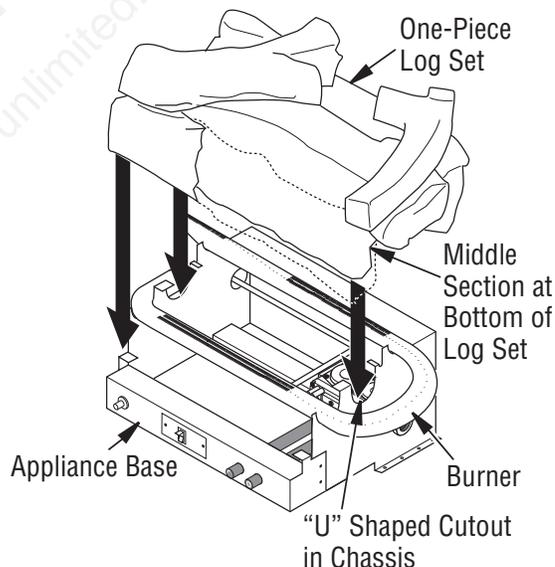
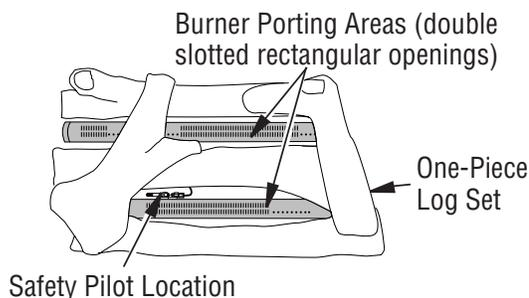

Figure 6 - Installing One-Piece Stove Log Set
Figure 7 - Top View of One-Piece Log Set on Gas Log Appliance
4. Set one-piece log on appliance base as shown in Figure 6. Make sure middle section at bottom of log is seated into "U" shaped cutout in center of appliance base. Log will fit securely on base. **IMPORTANT:** Make sure log does not cover any burner ports and does not touch the stove cavity (see Figure 7).
7. With control knob pressed in, press and release Igniter button. This will light pilot. The pilot is attached to the front burner (see Figure 7, page 8). If needed, keep pressing Igniter button until pilot lights.